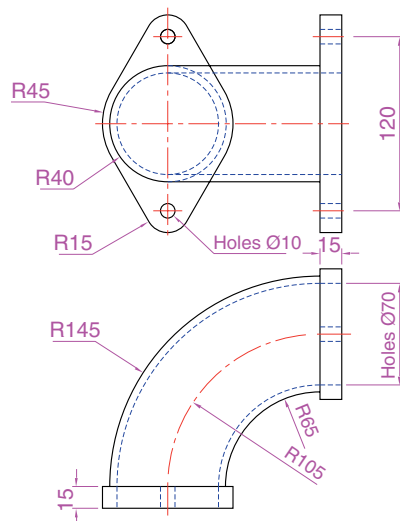

Fig. 17.32 Exercise 3 – details of the shapes and sizes
3. The two-view projection in Fig. 17.32 shows a ducting pipe. Construct a 3D model drawing of the pipe. Place in a **SW Isometric** view, add lighting to the scene and a material to the model and render.